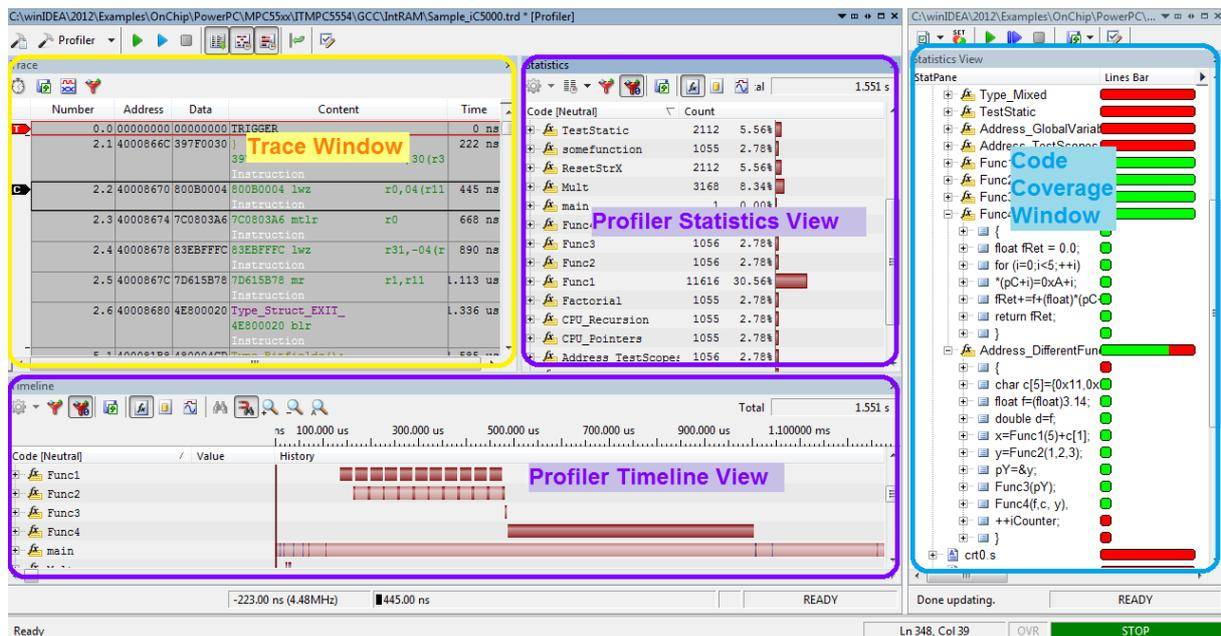

Figure 2: Trace Results over NEXUS
- Figure 2: NexusTraceProfilerCC-2.jpg